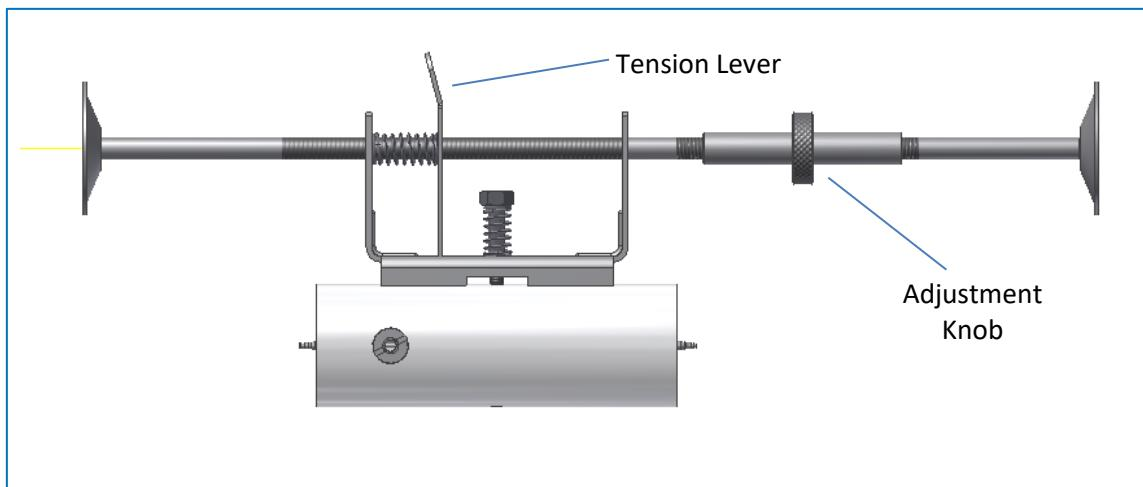

Fig. 4.8
6. Position the trap/mounting stand assembly (Fig. 4.8) within the oven in a way that suits the installation configuration. The trap mounting stand can be positioned either vertically or horizontally. While holding both lower and upper stands, turn the adjustment knob till the stand pads are fixed firmly against the oven side or top/bottom panels.